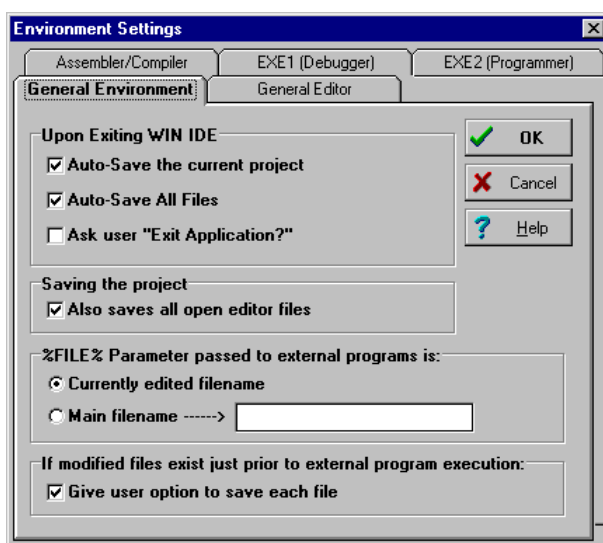

Figure 4-13. *Environment Settings* Dialog
Click the *General Environment* tab in the *Environment Settings* dialog (Figure 4-13) to change options for saving the project files, exiting the WinIDE editor, and storing a filename to be passed to an external program as a parameter.
- **Options:** Enter the options to pass to the compiler on the command line. Such options generally consist of switches that instruct the compiler, and a filename. Enter the *%FILE%* string in the command line to insert either the current filename or the filename specified in the *Main Filename* option in the *EXE Path* text box of the *General Environment* tab options (Figure 4-13).